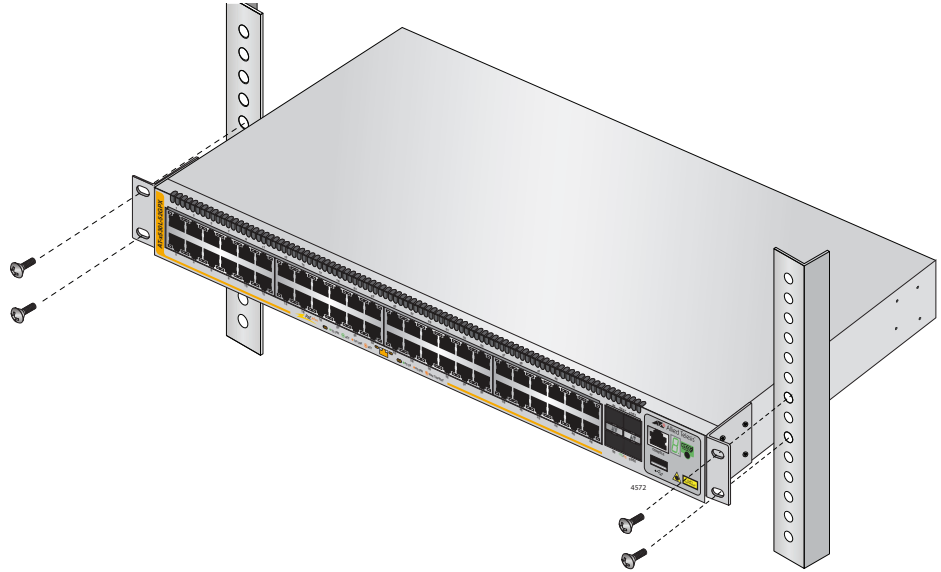

Figure 18. Installing the Switch in an Equipment Rack
3. Have another person hold the switch at the desired location in the equipment rack while you secure it using four standard equipment rack screws (not provided). Refer to Figure 18.